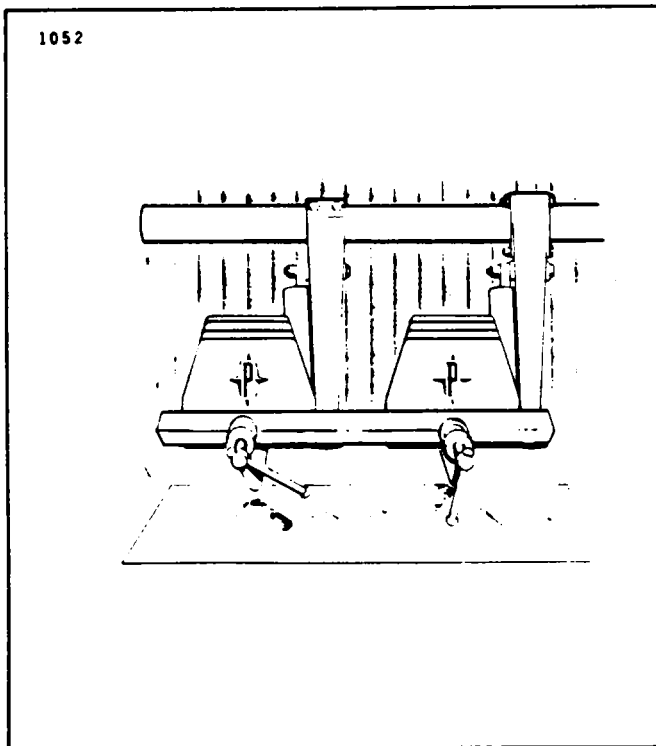

Figure 27-13. Clamping Rudder Pedals in Neutral Position
- A. Clamp the rudder pedals to align in a lateral position as shown in Figure 27-13.